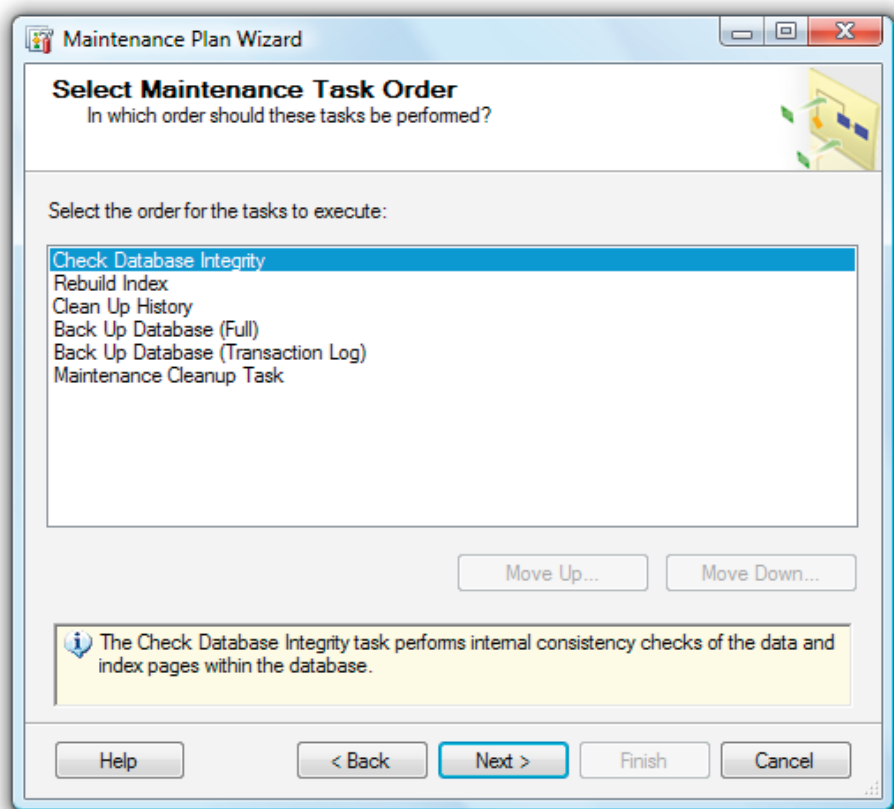

Figure 3.7: You must tell the Maintenance Plan Wizard the order in which you want it to perform its tasks.
Having chosen the maintenance tasks you want to include in your Maintenance Plan, click **Next**, and the **Select Maintenance Task Order** screen appears, as shown in Figure 3.7.
In this screen, you must tell the Wizard the order in which you want the maintenance tasks to execute. Figure 3.7 shows the six tasks we previously selected, in default order. In many cases, the default order will be fine, but you can move them up or down by selecting any one of the tasks, one at a time, and then clicking on either the "Move Up" or the "Move Down" button.
- **Task Scheduling.** If you choose **Separate schedules for each task**, the scheduling of these tasks (covered later) will determine the *actual* order in which they occur. For example, it is possible to schedule the tasks in such a way that the Backup Database (Transaction Log) task runs before the first ever Back Up Database (Full) task for a given database, although this would cause the Maintenance Plan to fail. The key thing to remember is that the logical task order you select in Figure 3.7 is not absolute, and that it can be overridden by the schedules you set for each one.